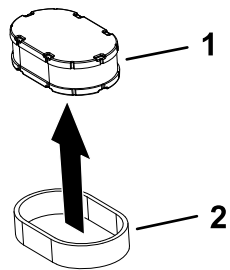

Figure 30
5. Separate the foam and paper elements (Figure 30).